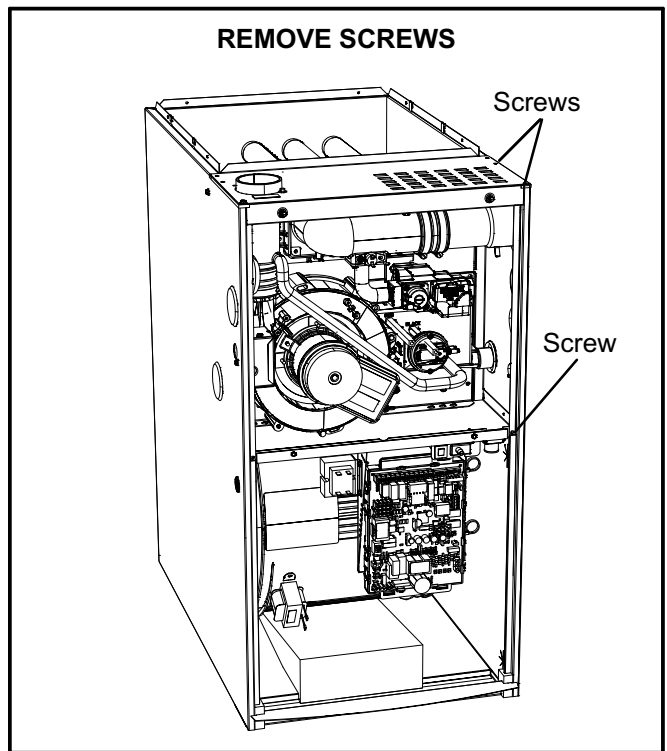

FIGURE 2
- 5 - Remove the air intake coupling. If the air intake coupling is still too difficult to remove, then remove the two screws from the right side of the top cap and one from the far right side of the blower deck that attaches to the cabinet. See figure 2. Carefully pull cabinet side away from air intake coupling, then remove the air intake coupling. **Note: Be careful not to bend the cabinet side.**